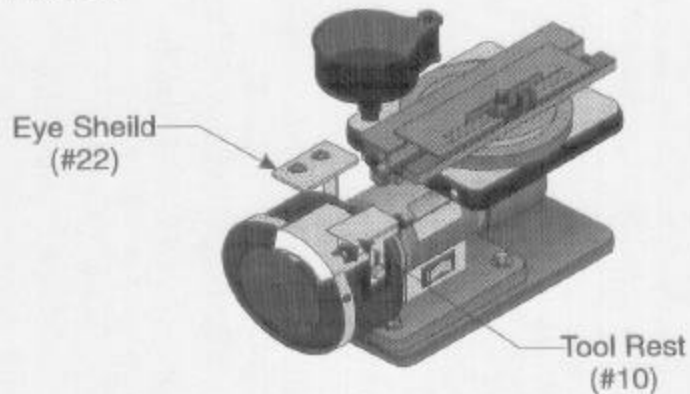

Figure 5 -- Dry Grinding
Step 2: Position the EYE SHIELD (#22) and the TOOL REST(#10) and secure firmly in place as shown in Figure 5.